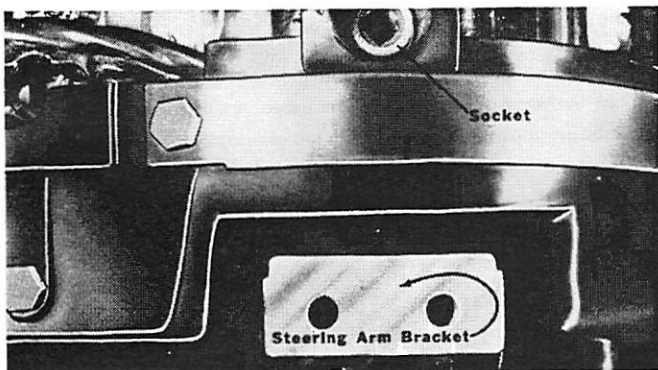

Figure 7. Steering Arm Bracket Removed
4. Remove 2 cap screws, which fasten remote steering bracket to steering arm bracket on engine, and remove remote steering bracket. (Figure 7)
7. Lubricate square coupling end of throttle control shaft in handle with MULTIPURPOSE Lubricant (C-92-35226) and insert coupling into socket in throttle control bracket. (Figure 7)